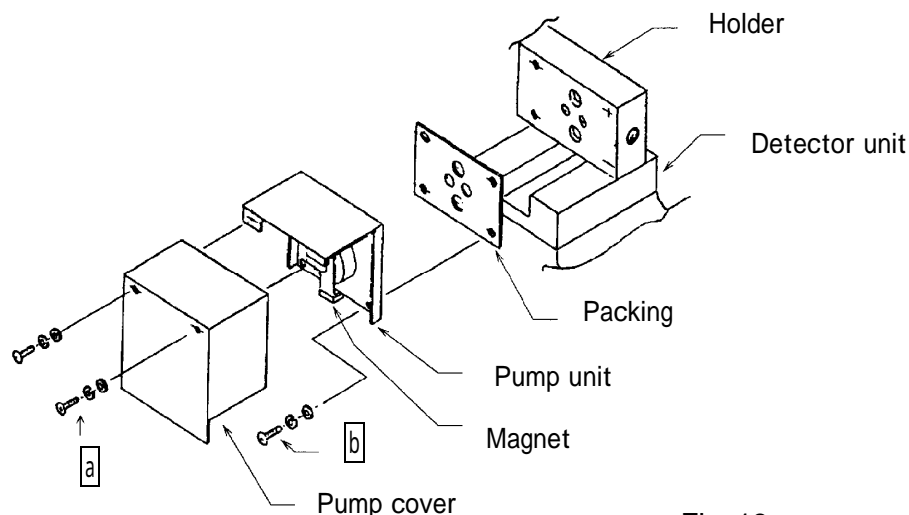

Fig. 12
#### 4 - 4 Replacing the pump (See Fig 12)
- (2) Loosen 4 pcs. of small pan-head screws(M3x8, marked **a** in Fig. 12) for pump cover and remove the pump cover.
- (3) Loosen 4 pcs. of small pan-head screws (M4x8, marked **b** in Fig. 12) for pump unit and pull the pump unit to this side to remove it from the holder.
- (5) Tighten the pump unit with 4 pcs. of small pan-head screws(M4x8, marked **b** in Fig.12) and then, fix the pump cover with 2 pcs. of small pan-head screws(M3x8, marked **a** in Fig.12).
- (6) After completion of pump replacement, turn on power to the indicator/alarm unit. When the power to the pump is separated, turn on power to the pump.